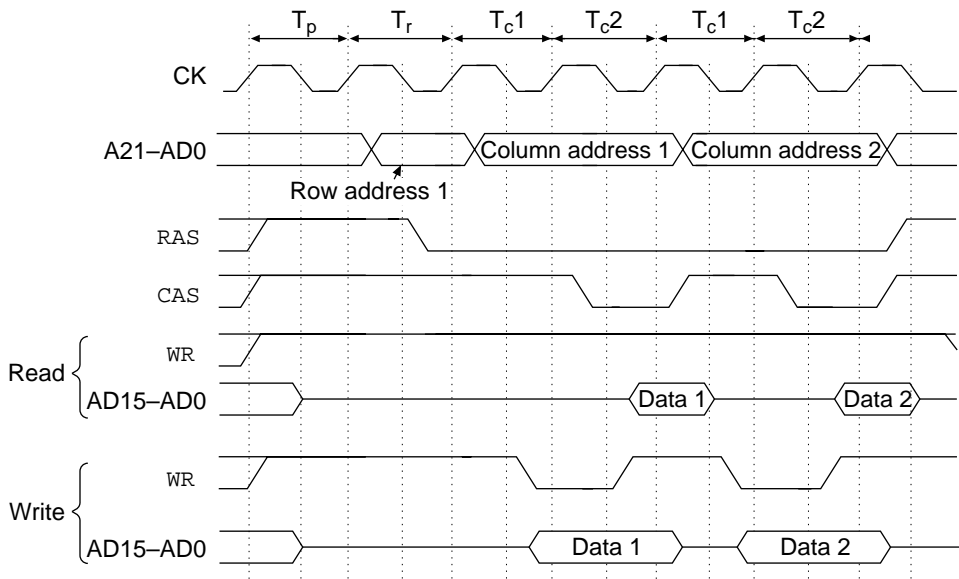

Figure 8.26 Long Pitch High-Speed Page Mode (Read/Write Cycle)
- Long-pitch, high-speed page mode: When the RW1, WW1, DRW1, and DWW1 bits in WCR1 and WCR2 are set to 1, and the corresponding DRAM access cycle is continuing, the $\overline{\text{CAS}}$ signal and column address output cycles (2 states) continue as long as the row addresses continue to match. When the $\overline{\text{WAIT}}$ signal is detected at the low level, the second cycle of the column address output cycle is repeated as the wait state. Figure 8.26 shows the timing for the long pitch high-speed page mode. See section 20.3.3, Bus Timing, for more information about the timing.